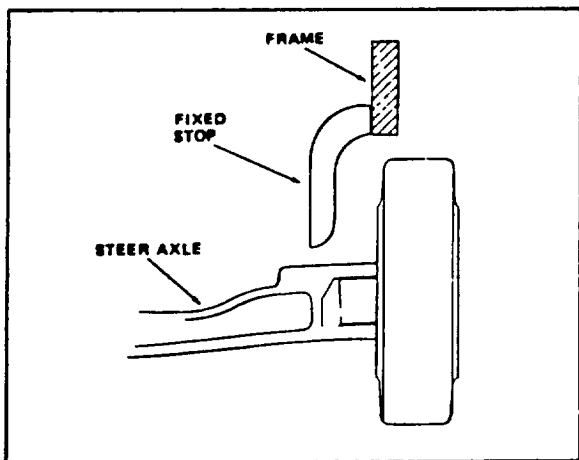

Figure 4-14. Steer Axle Stop
1. Steer Axle Stops - Check the steer axle stops at the beginning of each work shift. These stops are welded to the truck frame in such position that one is directly above each of the steer axle yokes (Fig 4-14).